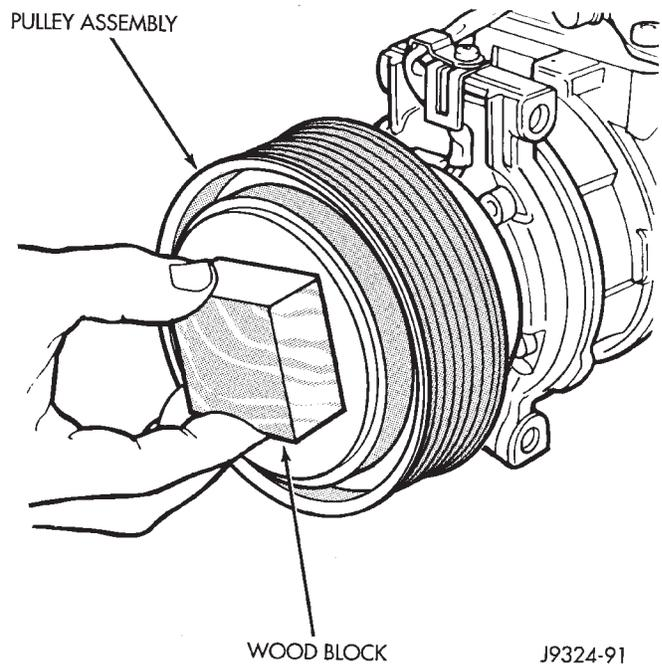

Fig. 34 Pulley Assembly Install
(4) Install the pulley assembly onto the compressor. If necessary, place a block of wood on the friction surface and tap gently with a hammer (Fig. 34).